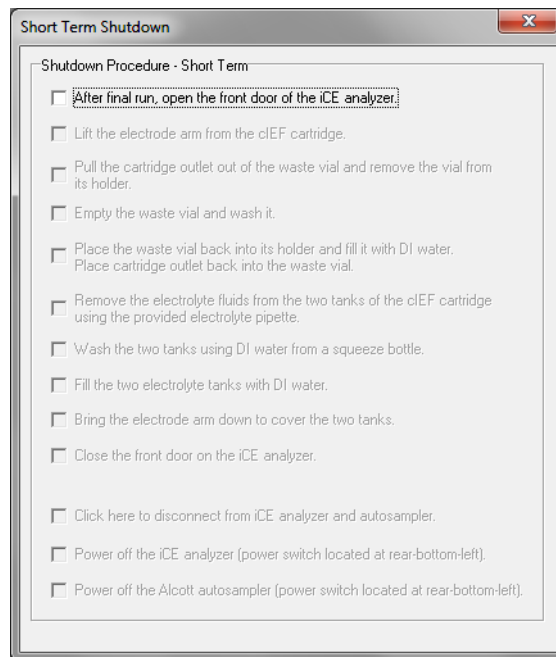

Figure 6-33: Short term shutdown protocol in iCE CFR Software.
1. In iCE CFR Software, select **Operate** from the main menu, then click **Shutdown** and **Less than 7 days**. The short term protocol checklist will display (Figure 6-33):